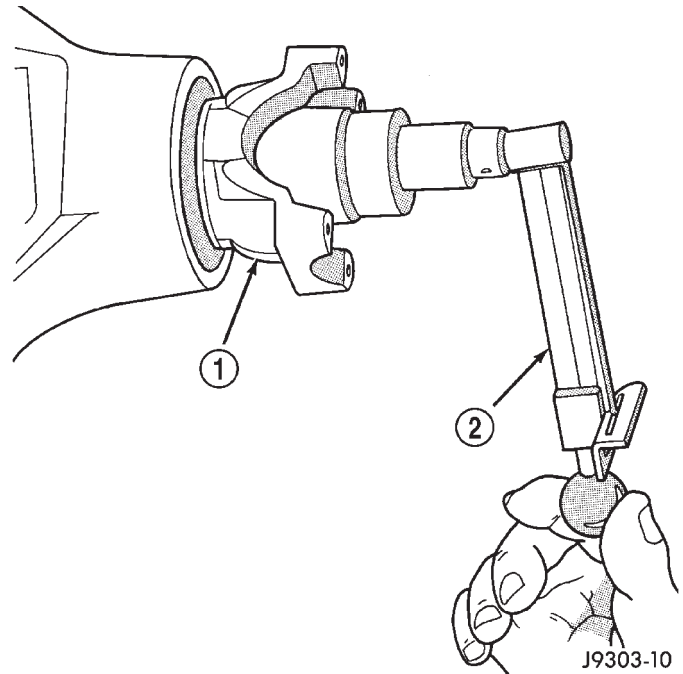

Fig. 18 Check Pinion Gear Rotation Torque
(10) Slowly tighten the nut in 6.8 N·m (5 ft. lbs.) increments until the rotating torque is achieved. Measure the rotating torque frequently to avoid over crushing the collapsible spacer (Fig. 18).
(11) Check rotating torque with a (in. lbs.) torque wrench (Fig. 18). The torque necessary to rotate the pinion gear should be:
(12) Install differential assembly and axle shafts, if necessary.
(13) Align marks made previously on yoke and propeller shaft and install propeller shaft.
(14) Install rear brake drums. Refer to Group 5, Brakes, for proper procedures.
(15) Add gear lubricant, if necessary. Refer to Lubricant Specifications of this section for lubricant requirements.
(16) Install wheel and tire assemblies.
(17) Lower vehicle.